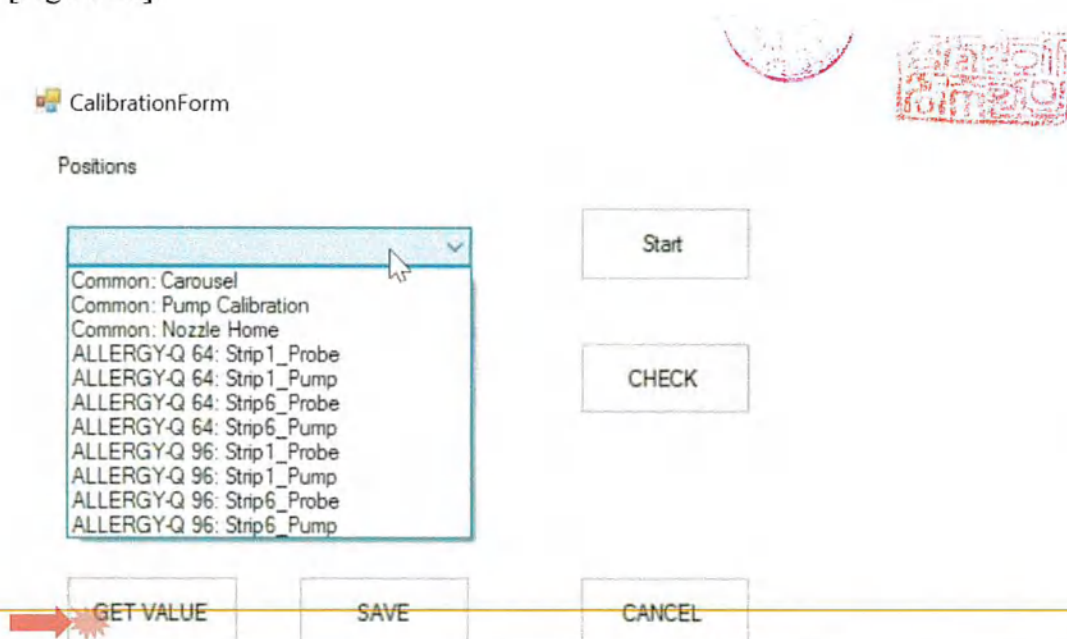

Figure 28
9.5.4.7 Press the GETVALUE button and the transmitter will move to the home position and the location will be recorded [Figure 28].